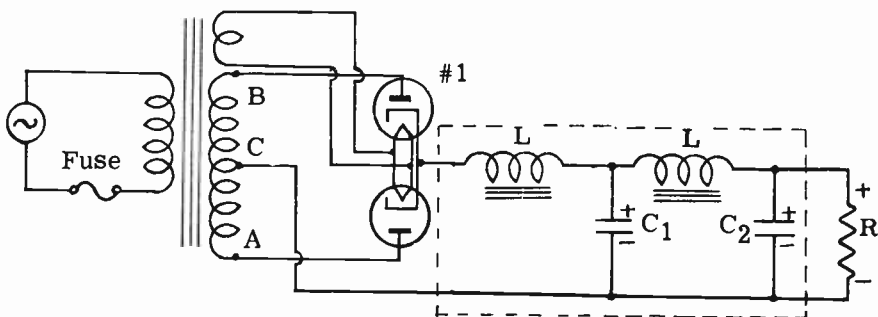

FIG. 7-9. FULL-WAVE RECTIFIER WITH CHOKE-INPUT FILTER.
**THE CHOKE INPUT FILTER.** Fig. 7-9 shows a CHOKe INPUT FILTER, hooked up to a full wave rectifier. The filter is called a choke input filter because the first component after the rectifier is a choke. The filtering action of the choke input filter is similar to that of the capacitor input filter. However, it has an advantage and a disadvantage when compared to a capacitor input filter. The choke input filter has better voltage regulation (voltage regulation is described later in this lesson) than a capacitor input filter. On the other hand, the capacitor input filter provides a higher output voltage than the choke input filter. Filter chokes used in power supplies run from 4 to 30 henries. The chokes are designed to have as low a DC resistance
In order to improve the voltage regulation of a power supply, a resistor is often bridged across the output capacitor (resistor B in Fig. 7-9). This resistor is called a **BLEEDER RESISTOR**. A bleeder resistor improves the voltage regulation by providing a minimum load on the power supply. It also discharges the filter capacitors after the power is turned off, thus serving as a safety device.